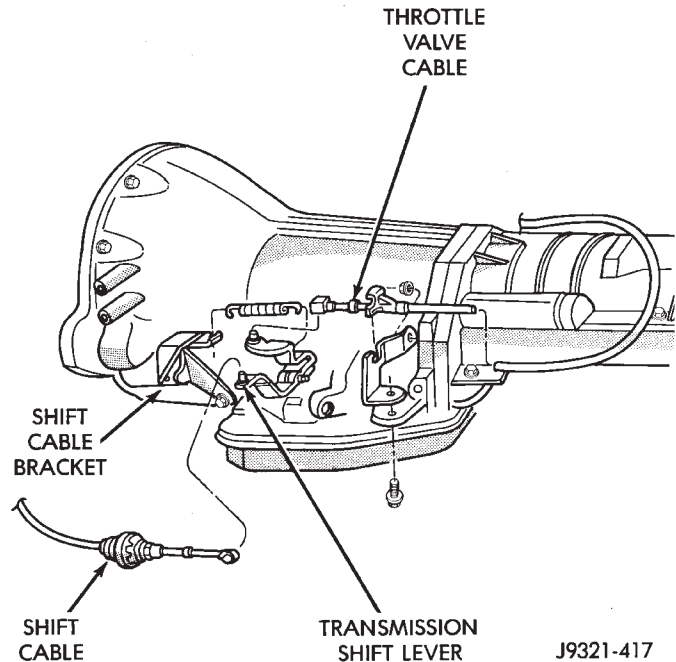

Fig. 288 Shift Cable Attachment At Transmission—Typical
- (1) Shift transmission into Park.
- (2) Raise vehicle.
- (3) Release cable adjuster clamp (at transmission end of cable) to unlock cable.
- (4) Unsnap cable from cable mounting bracket on transmission (Fig. 288).
- (5) Slide cable eyelet off transmission shift lever.
- (6) Verify transmission shift lever is in Park detent by moving lever fully rearward. Last rearward detent is Park position.
- (7) Verify positive engagement of transmission park lock by attempting to rotate propeller shaft. Shaft will not rotate when park lock is engaged.
- (8) Slide cable eyelet onto transmission shift lever.
- (9) Snap shift cable adjuster into mounting bracket on transmission.
(10) Lock shift cable by pressing cable adjuster clamp down until it snaps into place.
(11) Lower vehicle and check engine starting. Engine should start only in Park and Neutral.